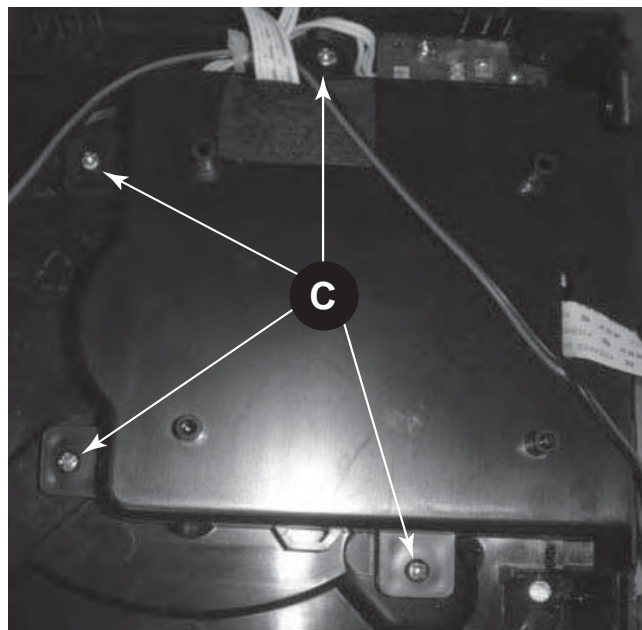

Figure 3
- 3) Loosen 4 screws "C" to take out DVD module cover as figure 3.